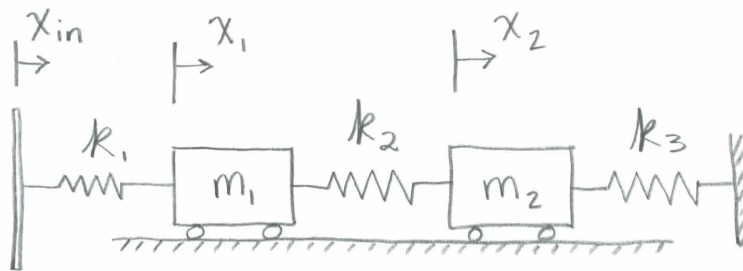

Figure 3: Fourth-order spring-mass system, for Problem 2.4.
- a) What are the equations of motion for the system shown in Figure 3? (Assume that when $x_{in} = x_1 = x_2 = 0$, all of the springs are at their neutral, undeflected length. Also assume that x_{in} is a control input that we can set directly over time.)